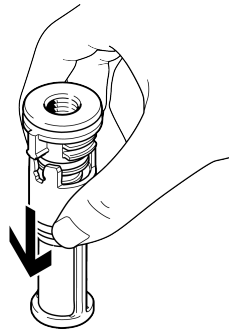

Fig. 6: Replacing air filter
4. For OVEL-7/-10 → Fig. 6 only : place the vacuum generator cartridge with the jet nozzle on a flat surface and press the filter down.